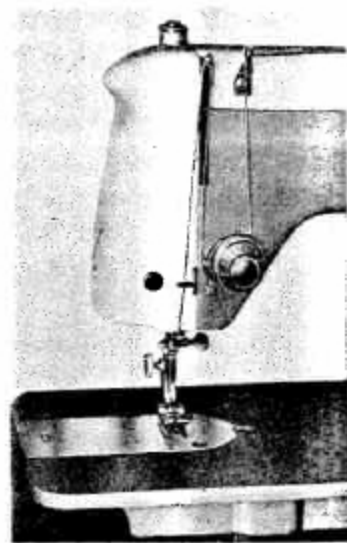

Fig. 10
1. Turn the balance wheel toward you to raise the take-up lever to its highest position. (Fig. 10)
5. Draw the thread up through the check spring and with a slight tug into the hook. (See insert, Fig. 10)